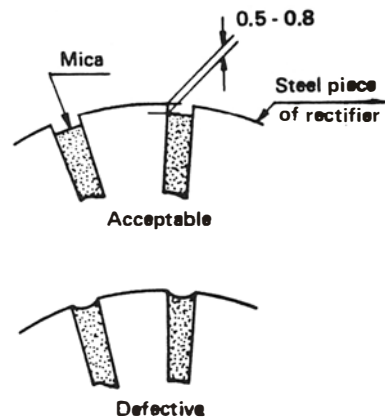

Figure 25
8. Measure the depth of the single span mica of the commutator, Figure 25. If it does not meet the specified limit, page 63, install a new armature shaft.